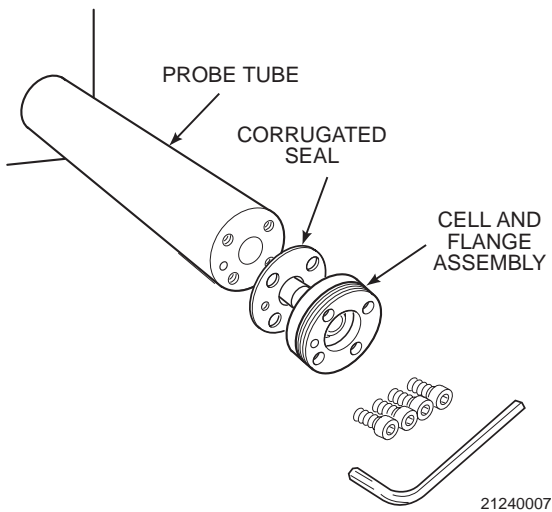

Figure 1-3. Cell and Tube Assemblies
- a. **Cell and Flange Assembly.** The primary component in the cell and flange assembly, Figure 1-3, is a yttria-stabilized zirconium oxide cell. It creates an electrical signal when the oxygen level on one side is out of balance with the oxygen level on the other side. This signal is proportional to the difference in oxygen levels.
- b. **Probe Tube Assembly.** Four screws secure the cell and flange assembly, Figure 1-3, to the probe tube assembly. When in place, the cell is inside the tube.